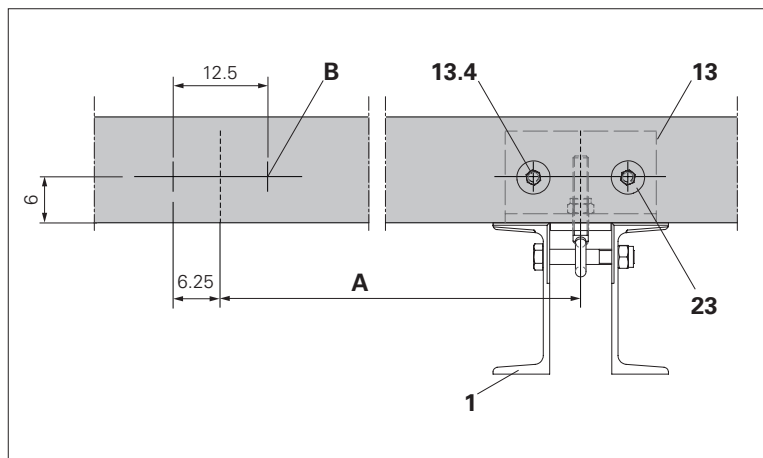

Fig. C3.03
1. Carry over the position of console bracket axes A to the enclosure beam and mark drilled holes B which correspond to Fig. C3.03.
2. Place the squared timber adapter (**13**) in the subsequent mounting position as a drilling jig. Drill squared timber with \varnothing 12 mm. (Fig. C3.03)